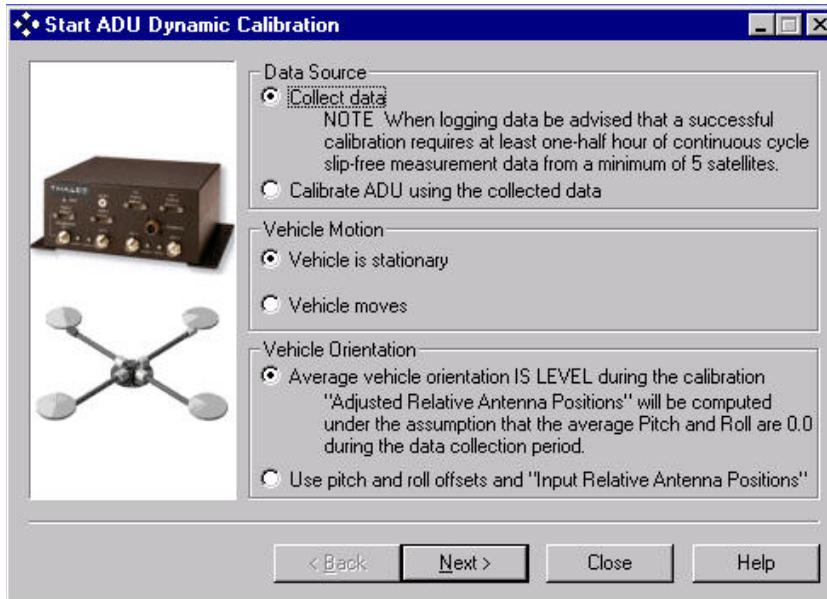

Figure 4.1 Start ADU Dynamic Calibration Dialog
| Start ADU Calibration Figure 4.1 | The first dialog allows you to select the method of collecting data. Choices are: collect data now, or use previously collected data | 32 |
You can launch CalibADU from your Windows desktop. To run CalibADU from the Windows **Start** menu, select **Programs**, choose **ADU Tools folder**, and then choose **ADU Dynamic Calibration**. The **Start ADU Dynamic Calibration** appears, as shown in Figure 4.1.
2. Select the **Collect Data** button in the **Start ADU Dynamic Calibration** dialog (Figure 4.1)